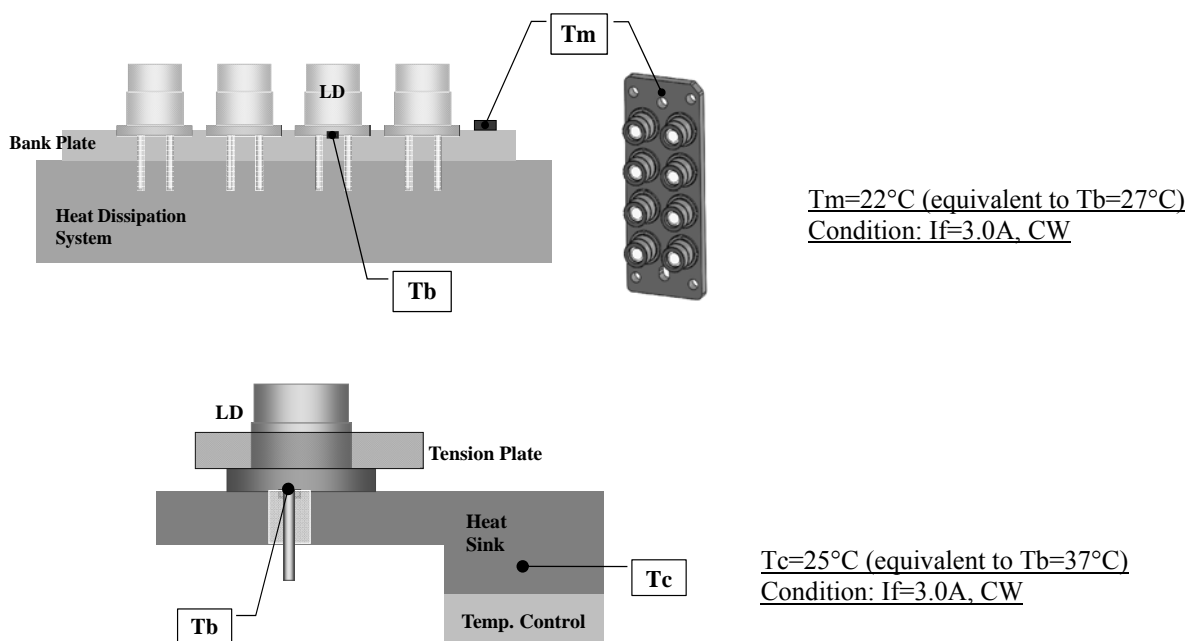

Fig.1 Schematic diagram of measurement system
*2) Refer to Fig.1
(3) Initial Electrical/Optical Characteristics of LD-Bank